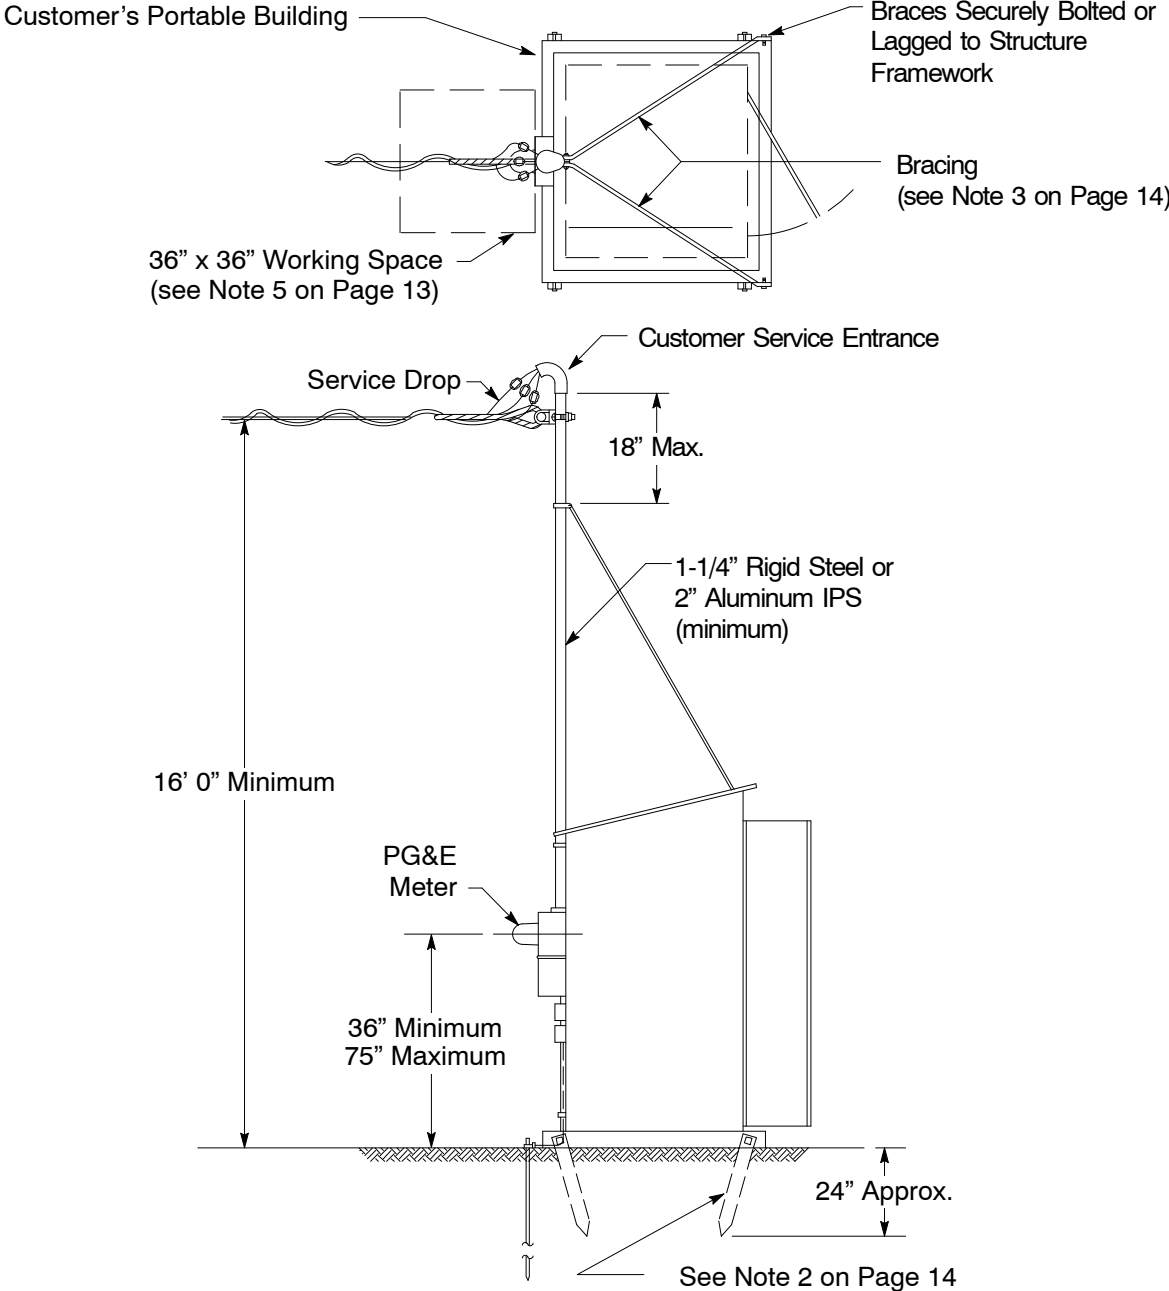

Figure 16
2. Portable Buildings (Figure 15 on Page 13 and Figure 16 on Page 15)
Portable buildings, such as small sheds, combined office/toilet structures, etc., are not considered to be **substantial** structures unless they are staked in place in the manner shown in Figure 16 on Page 15. Furthermore, periscopes must be installed and adequately braced in accordance with Figure 16 on Page 15 and the "Electric Service: Overhead" Section of the Electric and Gas Service Requirements Manual (Greenbook).